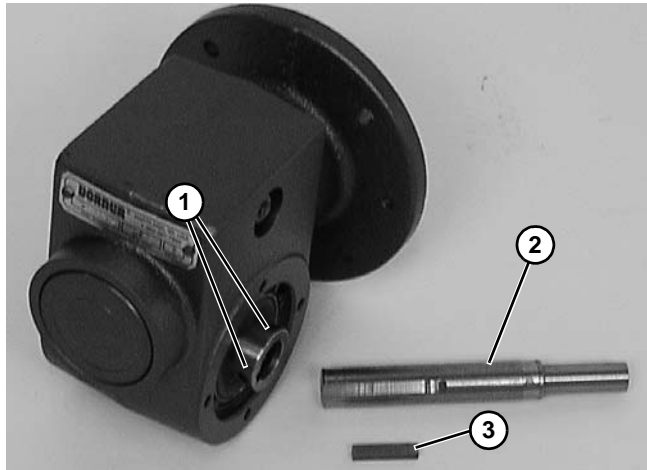

Figure 25
1. Loosen six (6) set screws (**Figure 25, item 1**). Remove drive shaft (**Figure 25, item 2**) and key (**Figure 25, item 3**).
3. Replace the original shaft components into new gear reducer see (**Figure 25**).